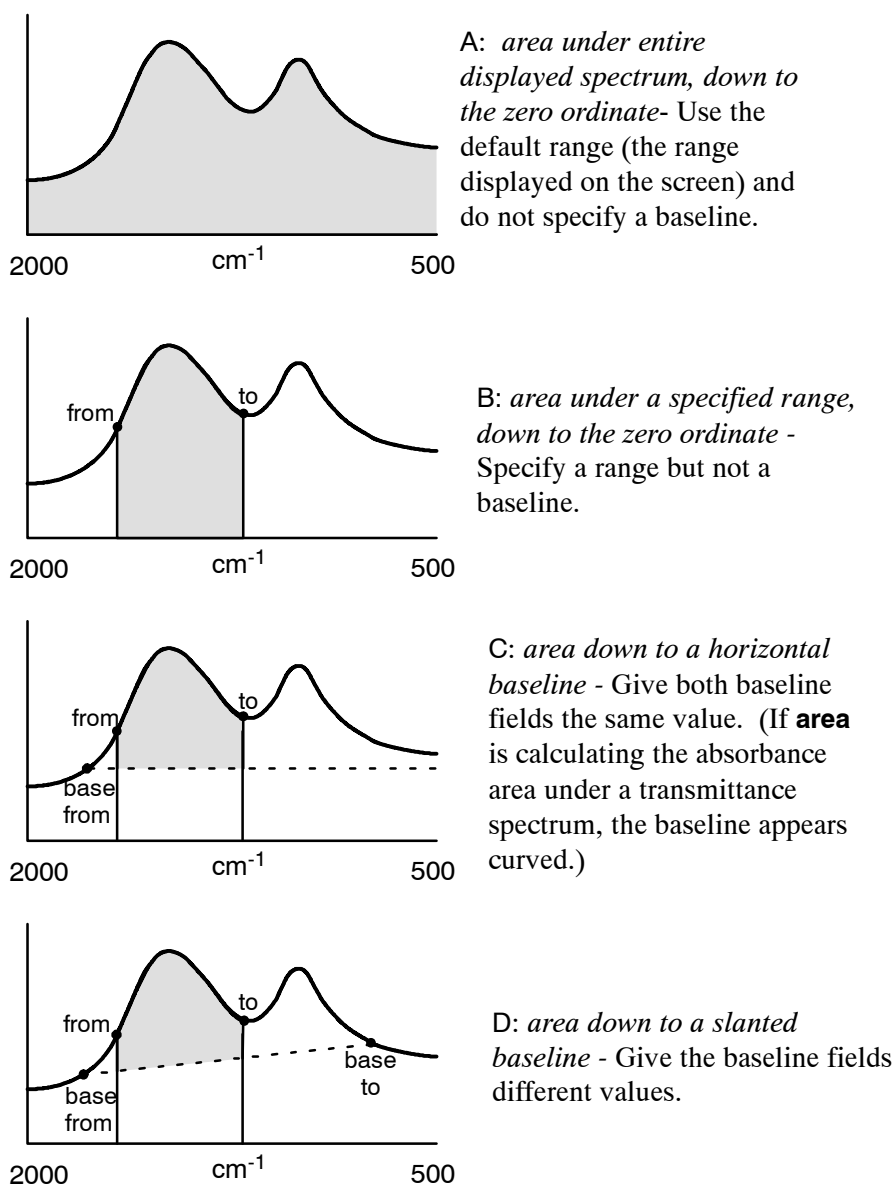
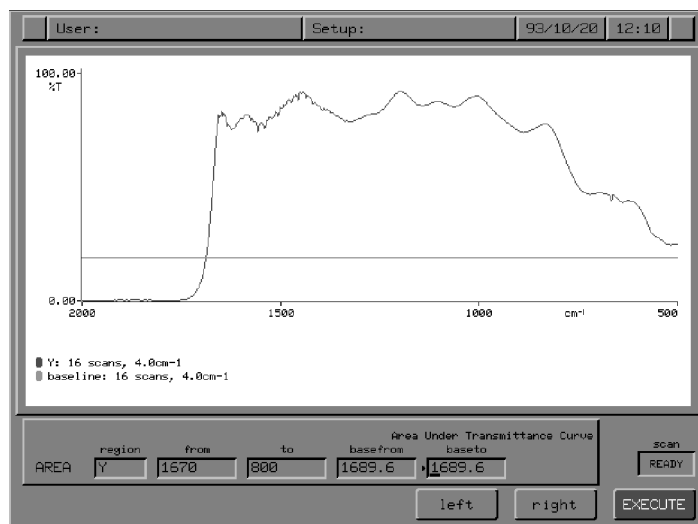

Figure 3-34 Effect on the Area when the Range and Baseline Change
Figure 3-39 Horizontal Baseline Drawn with the area User Interaction
- 3 If you want to find the area under the entire displayed curve (A in Figure 3-34), go to step 11.
- 5 To change the lower limit of the range, type a number in the **to** field. If you want the area for this range down to the zero ordinate (B in Figure 3-34), do not press **enter** but go to step 12.
Refer to Figure 3-39 and C in Figure 3-34.